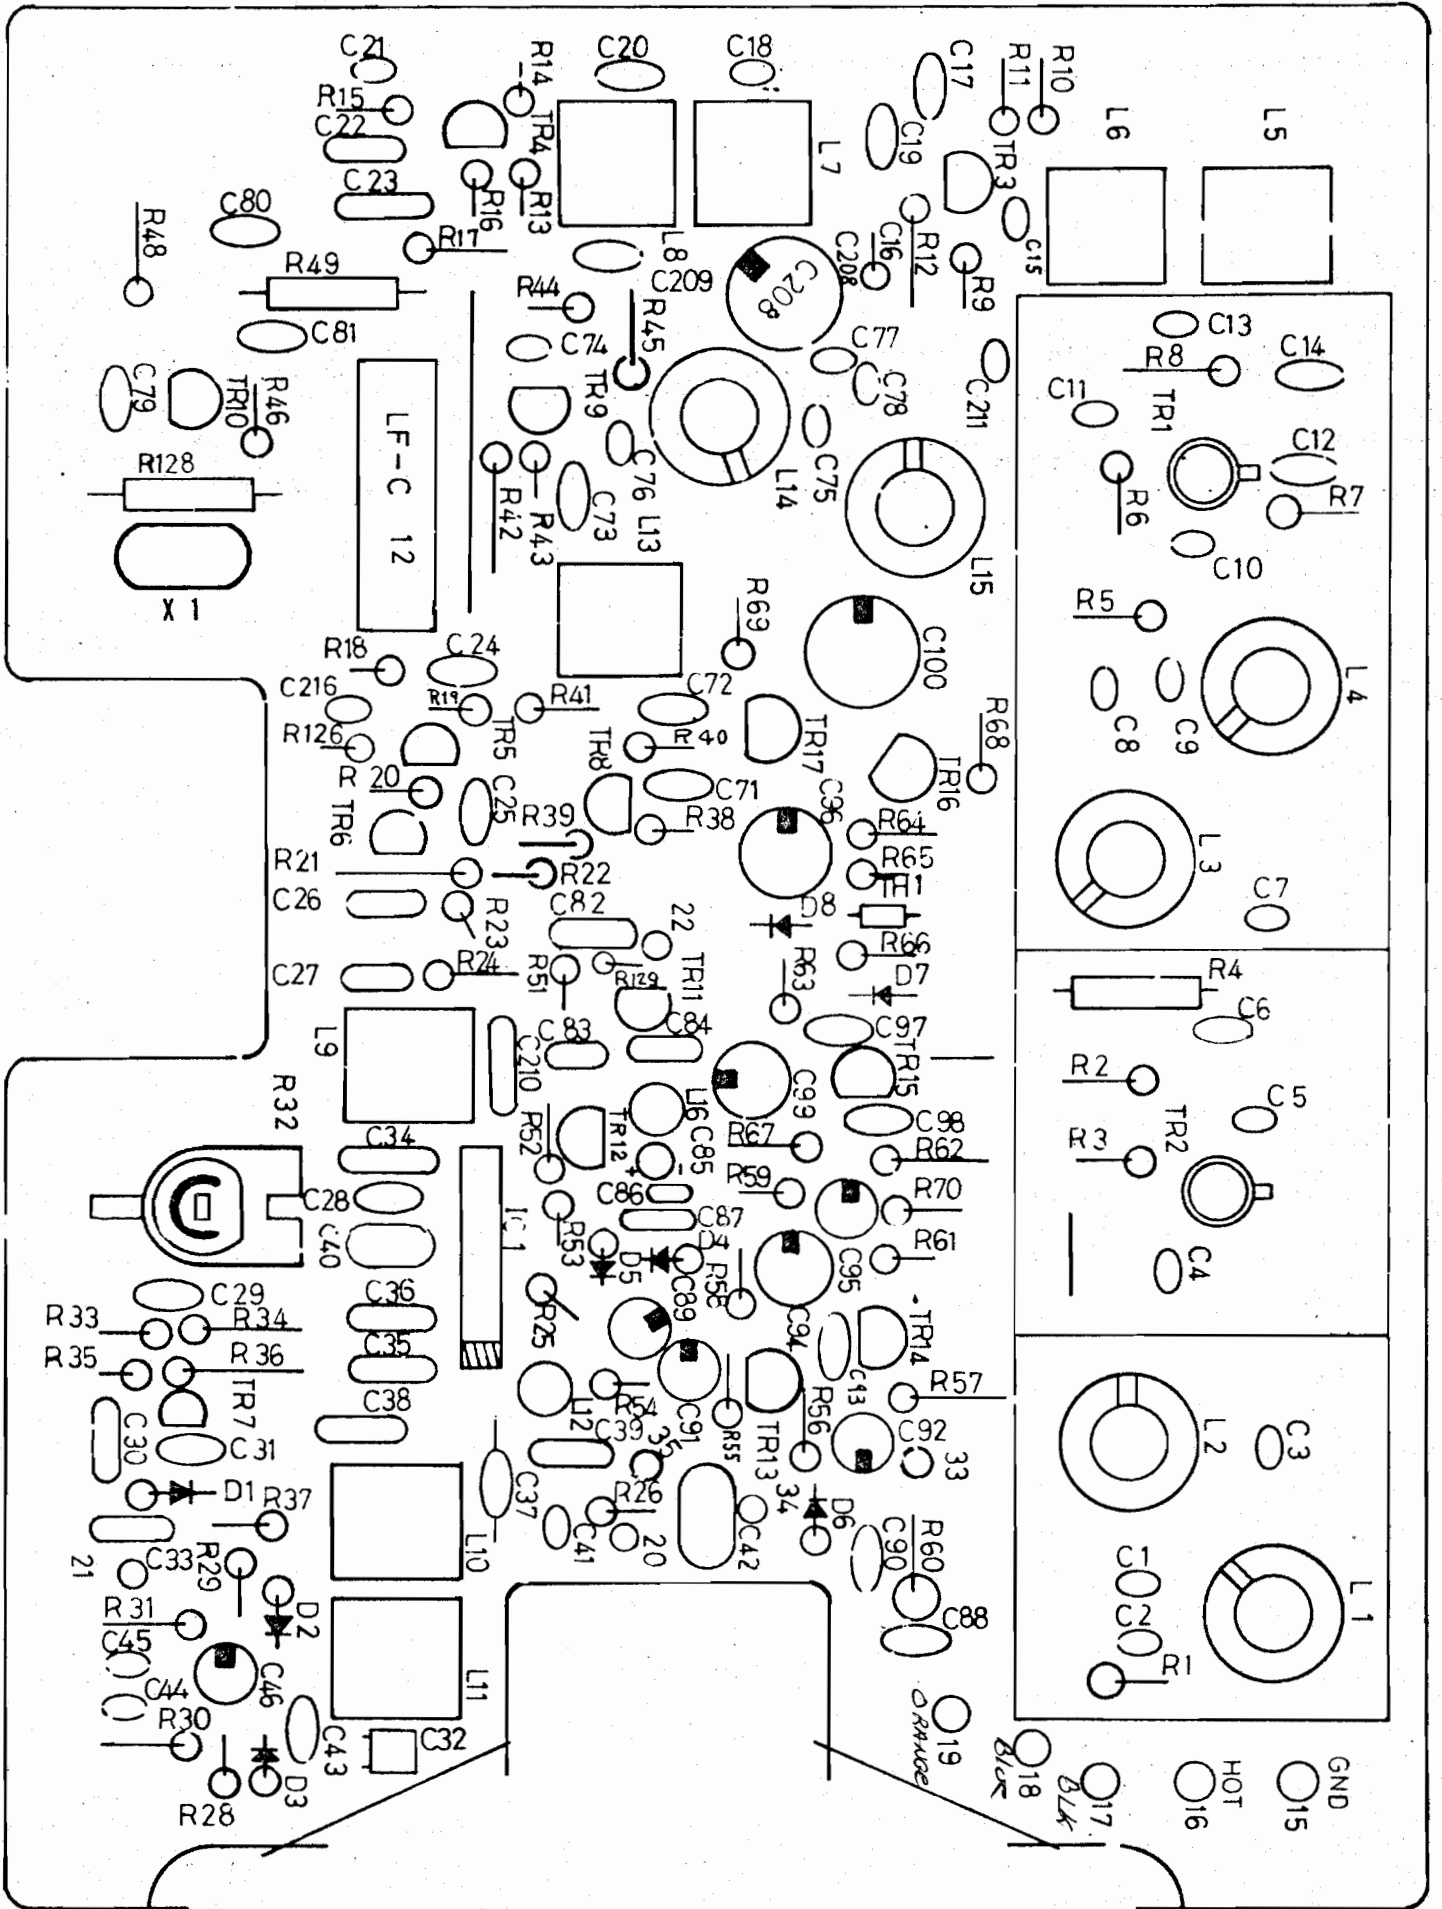

FIG. 1
- e. When setting the receiver to a desired frequency, a discriminator meter should be connected to Accessory plug and the receiver trimmer capacitors adjusted to cause the S meter to read a maximum and the discriminator meter to read zero. Refer to Fig. 1 for the location of the proper trimmer corresponding to the channel to be used. Adjust these trimmers very slowly while observing the discriminator meter. Another 13-509 operating on the desired frequency can be used for this purpose also.